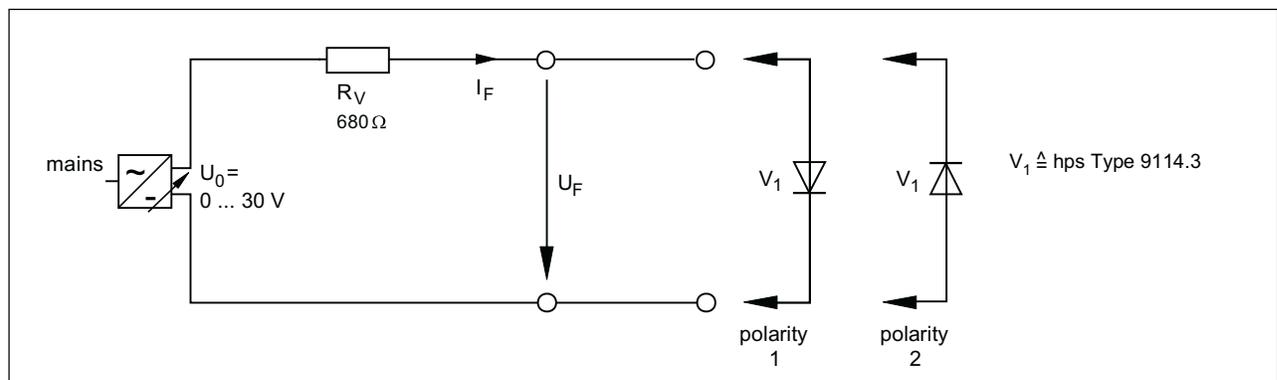

Fig. 1.1.2.1
- Apply the DC voltages  $U_F$  listed in Table 1.1.2.1 to the diode as shown in Fig. 1.1.2.1 (polarity 1), measure the corresponding current  $I_F$  and enter the values in Table 1.1.2.1. For this purpose, use the current error measuring.